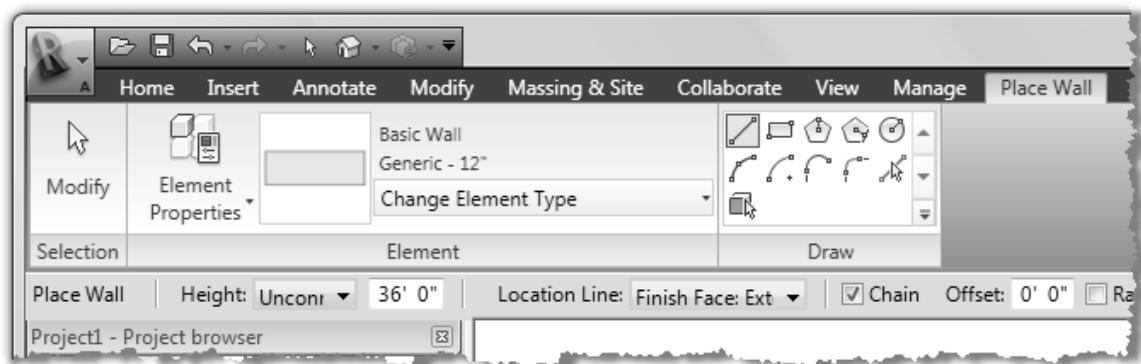

Figure 3-2.1 Ribbon and Options bar: Wall tool active
2. Make the following changes to the wall options in the *Options Bar* (Figure 3-2.1):
2. Make the following changes to the wall options on the *Ribbon* and in the *Options Bar* (Figure 3-2.1):